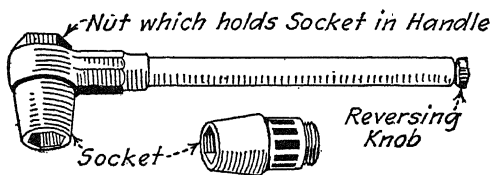

FIG. 213.—Ratchet wrench.
8. The ratchet wrench (Fig. 213) is especially useful when only a short swing of the handle is permissible; in fact the multiple ratchet wrench may be used with a swing of only